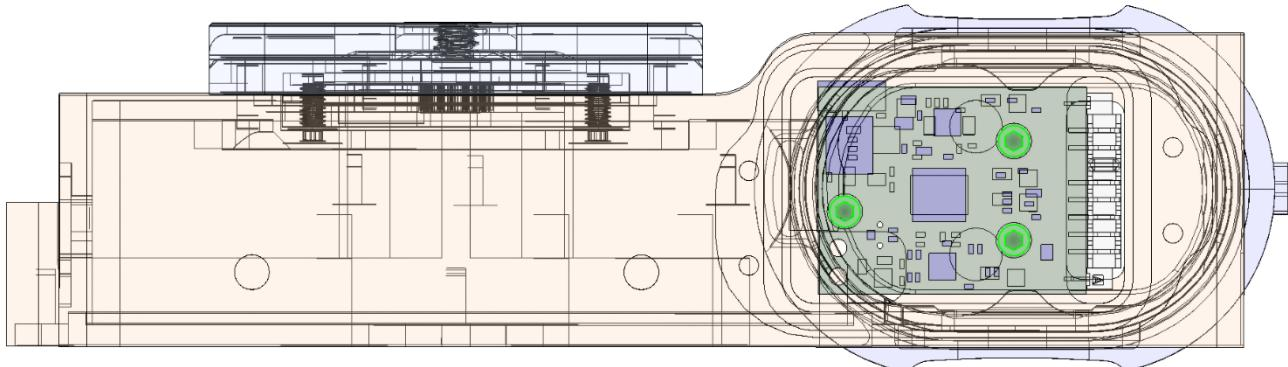

Figure 12 - Screws (000000-00) Fastening Battery Board to Body (DWG)
- 9.2.7 **SECURE BATTERY BOARD.** Fasten the battery board to the body with three 2-56 screws (0000000-00). These screws are highlighted in Figure 12.